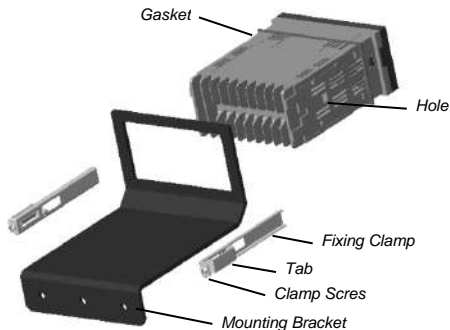

Figure 3: Mounting Bracket Accessory Installation
1. Insert the rear of the monitor through the bracket's opening so the bottom of the monitor rests on the bracket surface. Make sure the gasket is in place Figure 3.